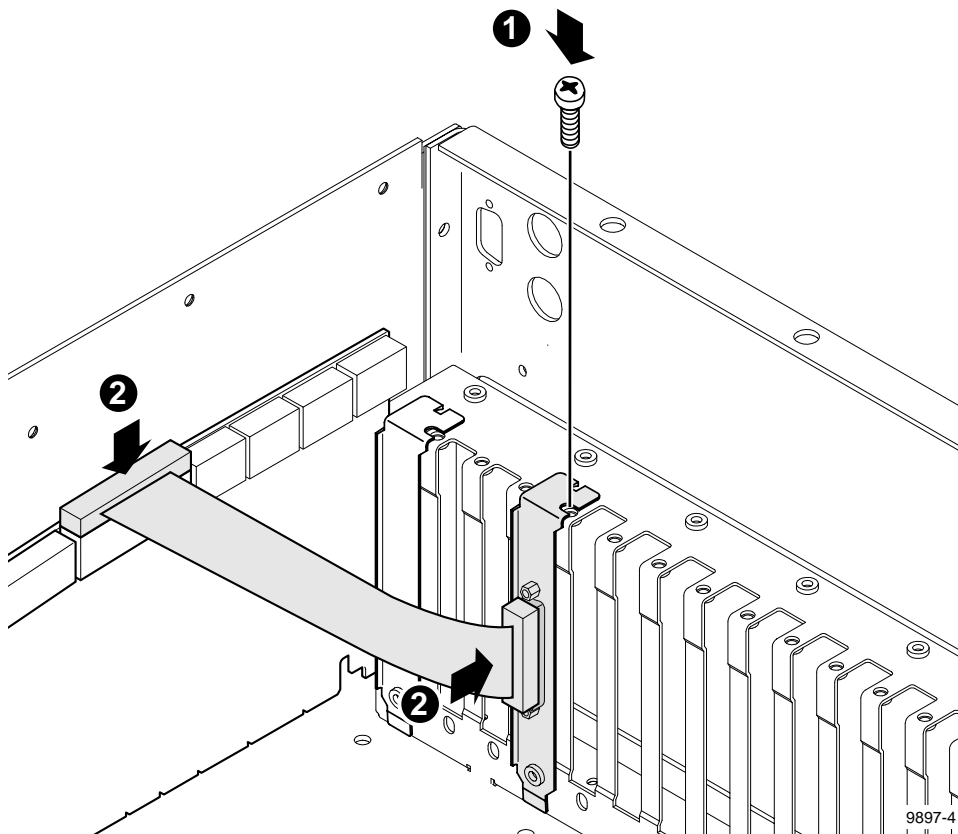

Figure 12. Installing the parallel port L-bracket and cabling
See ❶ in Figure 12.
3. Connect the CPU parallel port cable between the processor board and the parallel port L-bracket. See ❷ in Figure 12.